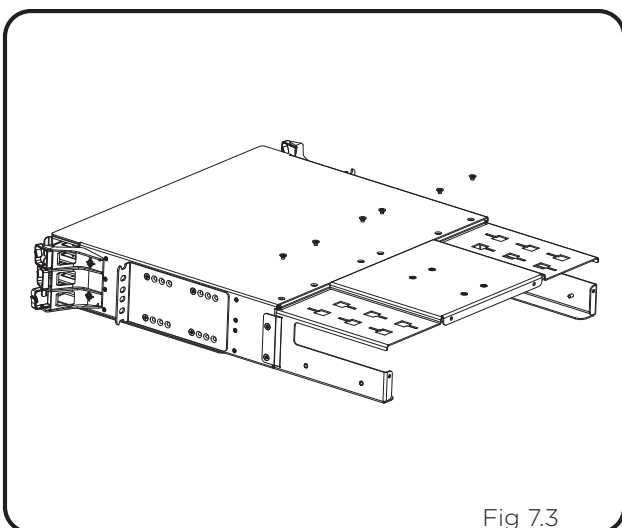

Fig 7.3
7.7. Secure the Strength Member and the Extension to the UHD Chassis by installing the bottom screws (6 screws – Fig 7.3).